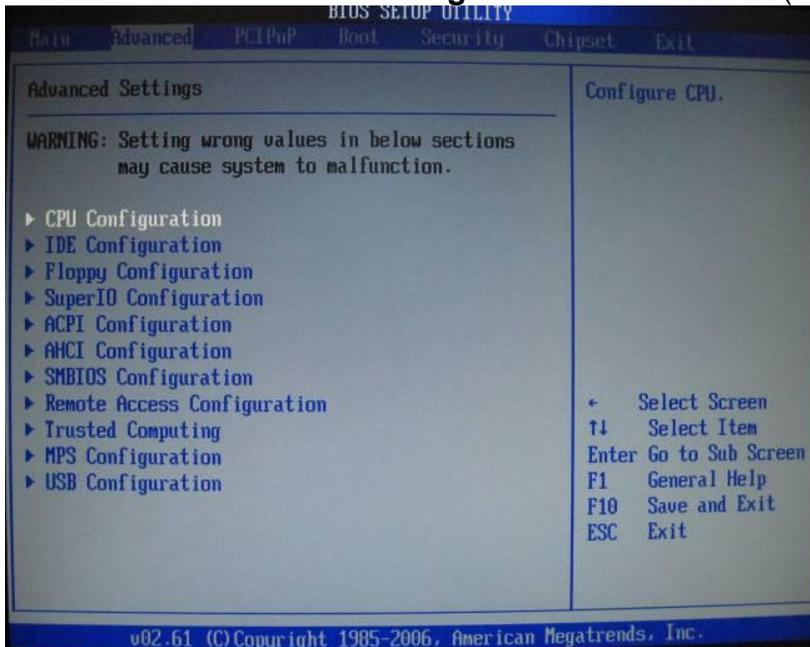

Figure 8-12 CPU Configuration Screen
2. On the **Advanced Settings** screen select **CPU Configuration**. Press **Enter**. (Figure 8-12).